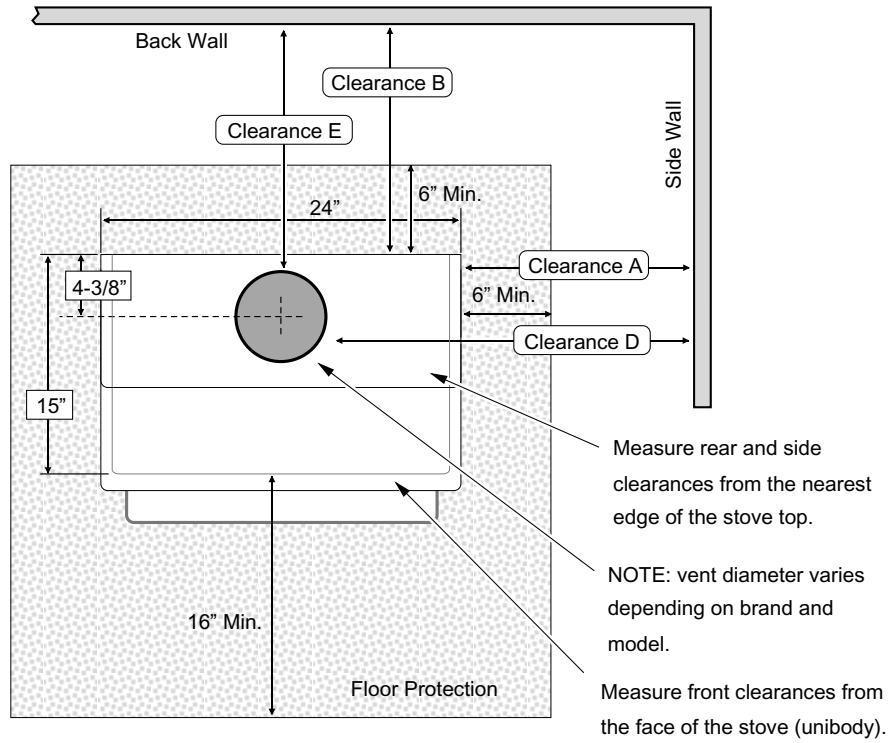
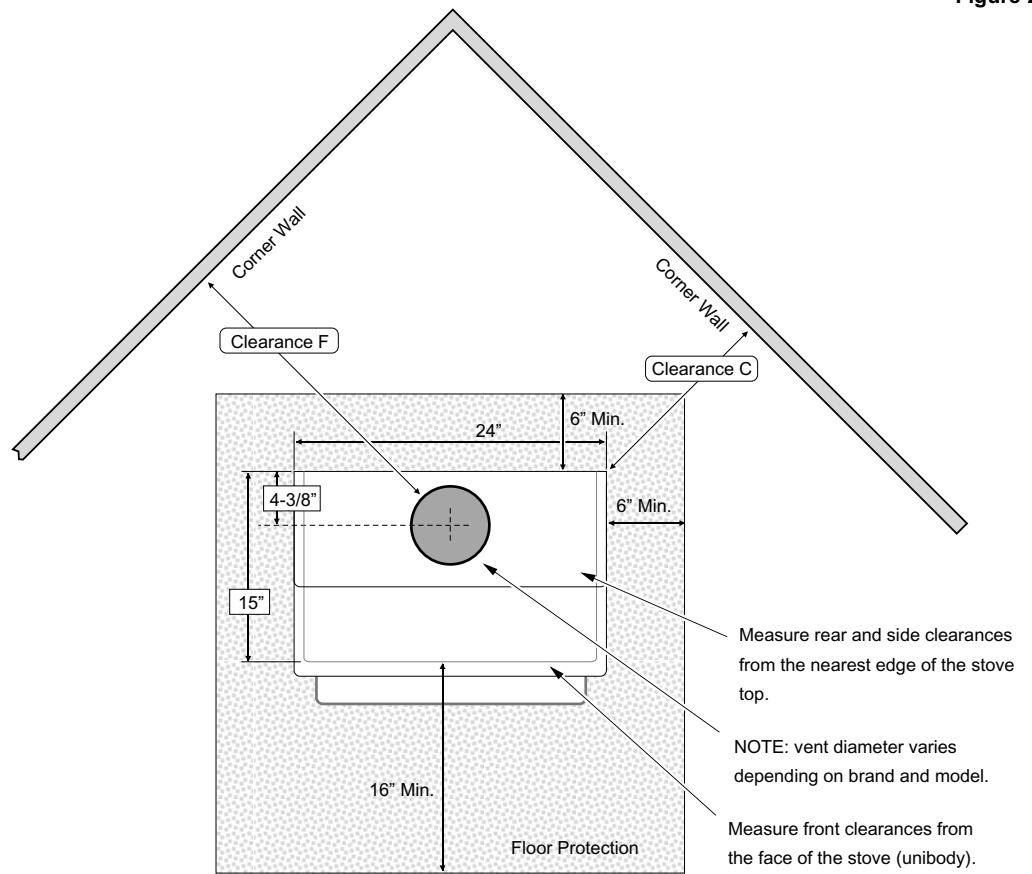

Figure 2
Figure 3
- Floor protection must extend 6" to the sides and rear of the stove and 16" to the front of the stove (36" wide by 37" deep - see Figure 2 and Figure 3).
- The following clearances must be met (see Figure 2 and Figure 3)